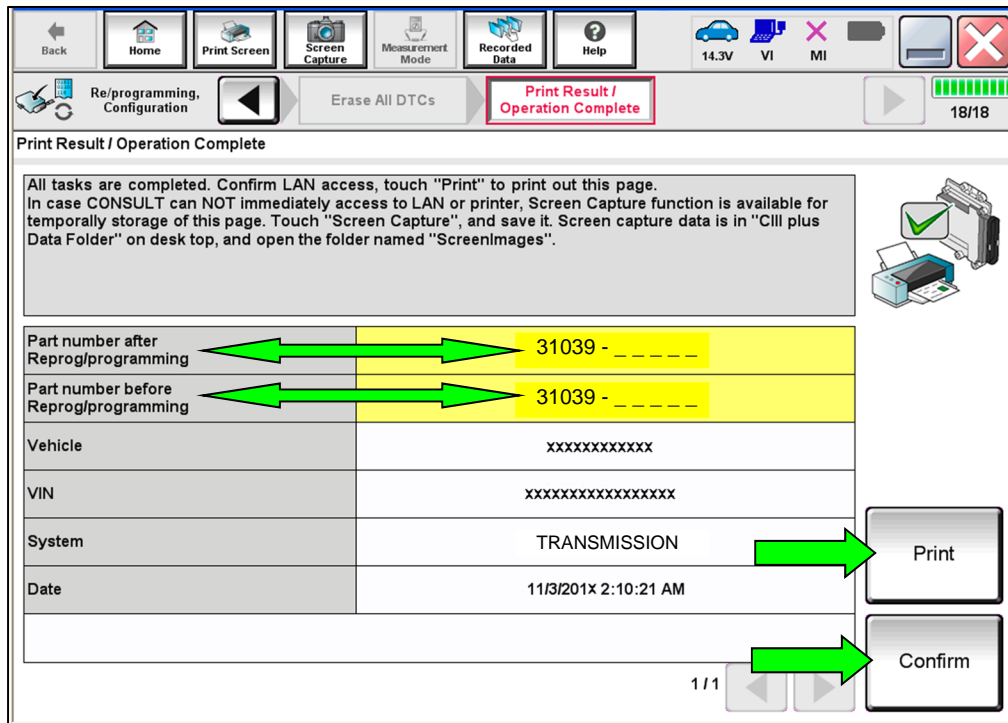

Figure 15
- When the entire reprogramming process is complete, the screen in Figure 15 will display.
20. Print a copy of this screen (Figure 15) and attach it to the repair order for warranty documentation.